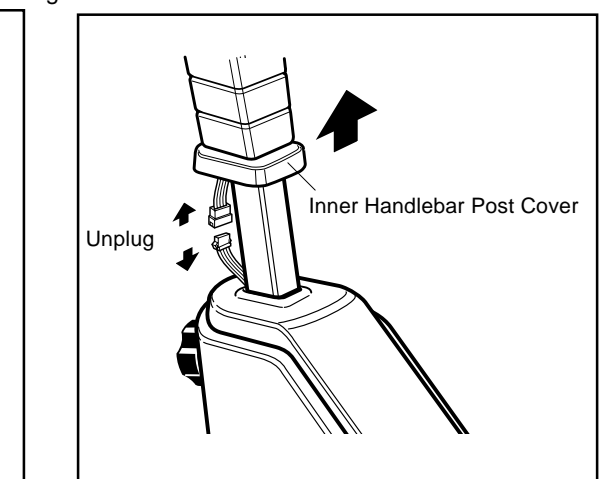
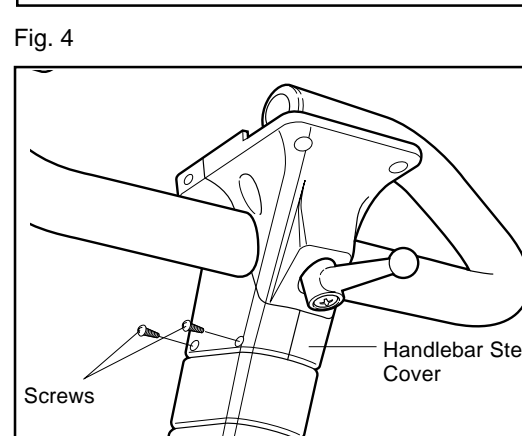

Fig. 6
Fig. 7
2. Remove the screws of both the handlebar stem and the outer handlebar post cover to remove the 5P cable. (Fig. 6)
1. Using cable holders, bind the 5P cable, leaving approx. 5cm portion from the control unit side cable connector, to the handlebar post. (Fig. 7) Assemble the handlebar post cover and the handlebar stem cover. (Fig. 6)